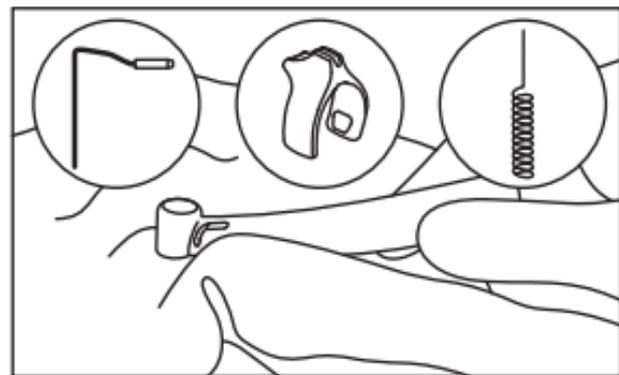

Fig. 20
- 5) Wipe the exterior of the handpiece, internal spray nozzle, nozzle holder and cleaning wire clean using a cloth moistened with disinfectant or ethanol with a concentration of 60-90%. (Fig. 20)